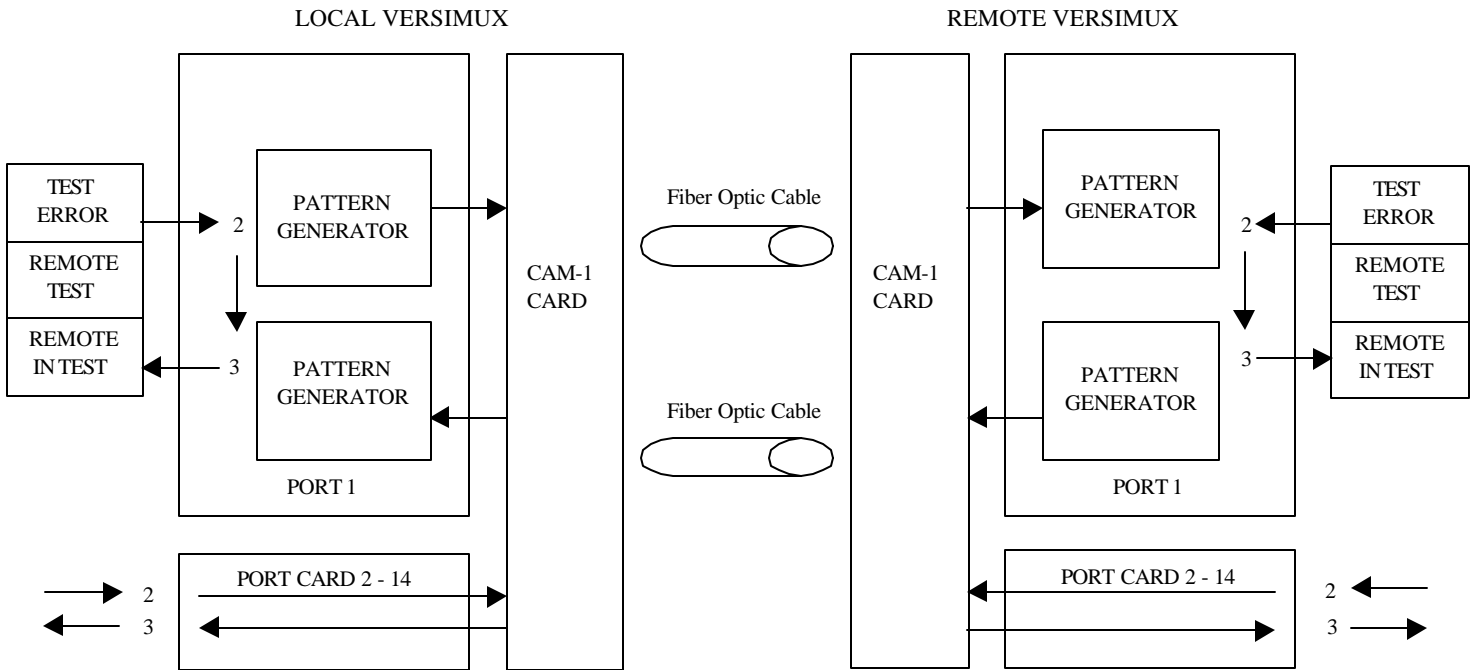

Figure 5-2
2. To perform a diagnostic end-to-end test simply set the test/operate switch (S2) to the TEST (up) position on both local and remote port cards. In the test mode the local port card will generate a pseudo-random pattern and transmit it to the remote port card in lieu of the data signal (see Figure 5-2). At the remote port card the signal is recovered, the pattern detector will activate the TEST ERR lamp if a discrepancy is detected between the local pattern and the recovered pattern. The operation of the test circuitry may be verified by momentarily depressing the Error Inset pushbutton. This will cause an error to be inserted into the test pattern from the local card causing the remote TEST ERR lamp to turn on.